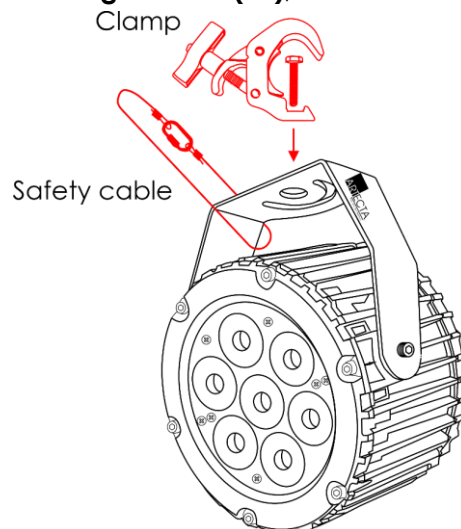

Fig. 05
- 01) Use a clamp to attach the device to the supporting structure, as shown in Fig. 05. Make sure that the device cannot move freely.
- 02) Secure the device with a secondary suspension, for example a safety cable. Make sure that the secondary suspension can hold 10 times the weight of the device. If possible, the secondary suspension should be attached to a supporting structure independent of the primary suspension. Put the safety cable through the **mounting bracket (02)**, as shown in Fig. 05.